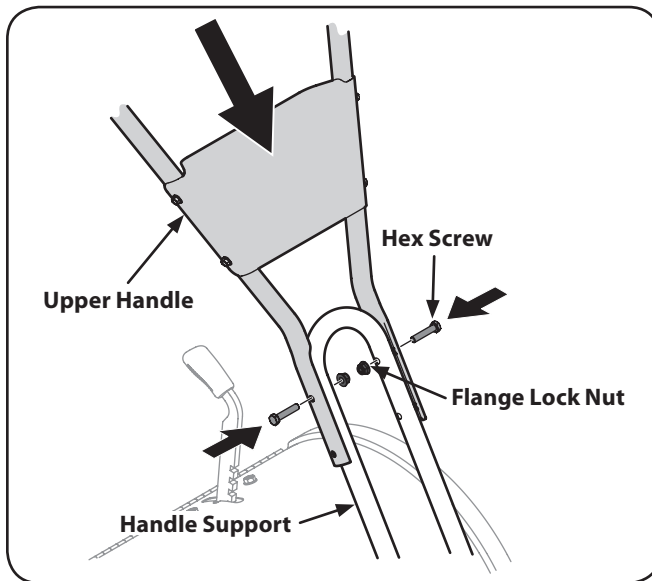

Figure 3-2
- Using two hex screws and two flange lock nuts, loosely attach the handlebar support using the upper holes. Tighten the two screws securely. See Figure 3-2.